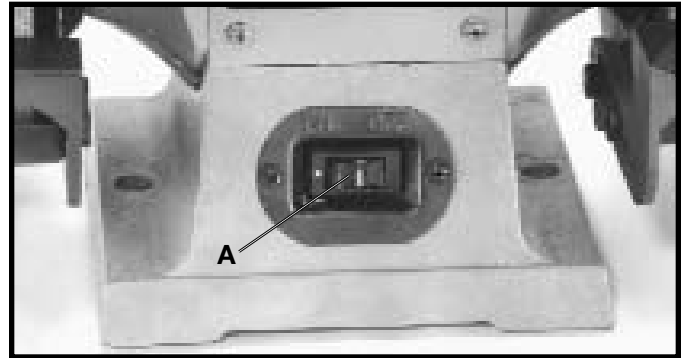

Fig. 14
The switch (A) Fig. 14, is located on the front of the grinder. To turn the grinder "ON" push the left hand portion of the switch and to turn the grinder "OFF" push the right hand portion of the switch.